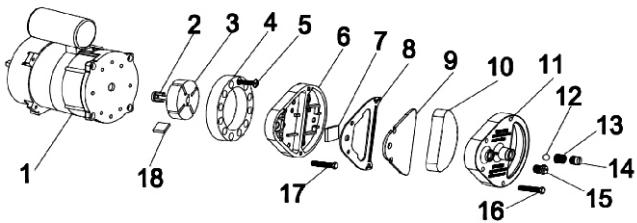

Fig.2
Clean air filters. Remove filter and cover (11), wash air intake filter (10) using a light detergent and dry it thoroughly before reinstalling. Replace air delivery filter (9) once a year (see Fig.2)